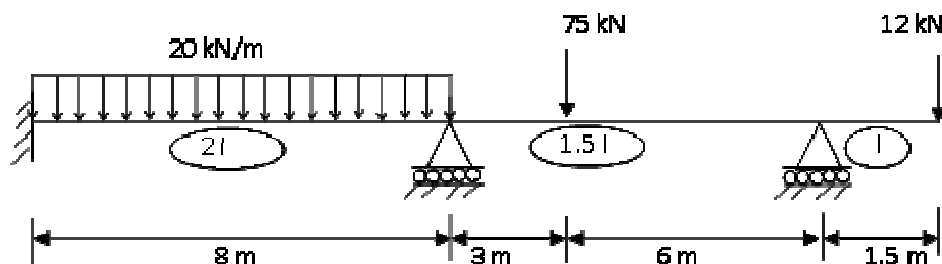

Fig.3
5. Analyse the continuous beam shown in **Fig.3** using theorem of 'Kani's Method', and draw shear force and bending moment diagrams. Locate and find the distances of the points of contra-flexure from supports. Draw elastic curve.